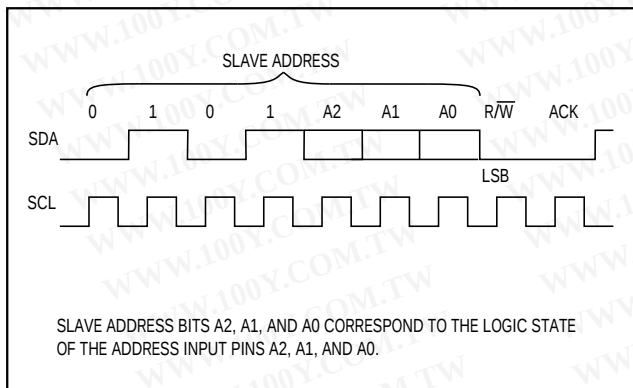
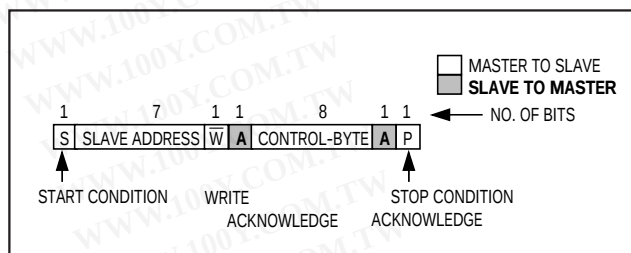
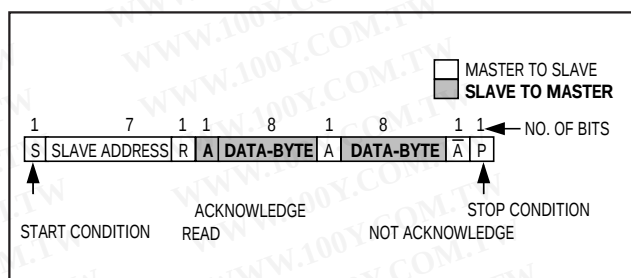
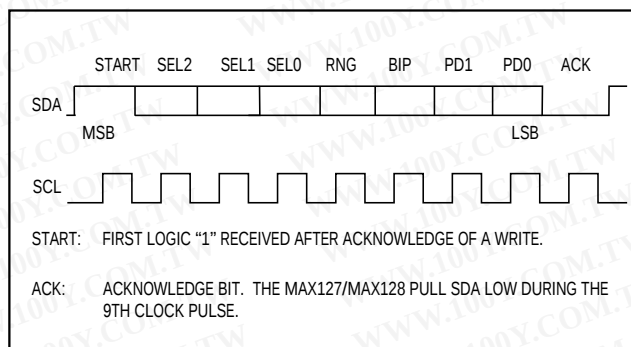

Figure 3. Address Byte
Figure 6. Write Cycle
Figure 7. Read Cycle
Figure 8. Command Byte
The MAX127/MAX128 have a 7-bit-long slave address. The first four bits (MSBs) of the slave address have been factory programmed and are always 0101. The logic state of the address input pins (A2–A0) determine the three LSBs of the device address (Figure 3). A maximum of eight MAX127/MAX128 devices can therefore be connected on the same bus at one time.
A conversion cycle begins with the master issuing a START condition followed by seven address bits (Figure 3) and a write bit ($R/\overline{W} = 0$). Once the eighth bit has been received and the address matches, the MAX127/MAX128 (the slave) issues an acknowledge by pulling SDA low for one clock cycle ($A = 0$). The master then writes the input control byte to the slave (Figure 8). After this byte of data, the slave issues another acknowledge, pulling SDA low for one clock cycle. The master ends the write cycle by issuing a STOP condition (Figure 6).
Once a conversion starts, the master does not need to wait for the conversion to end before attempting to read the data from the slave. Data access begins with the master issuing a START condition followed by a 7-bit address (Figure 3) and a read bit ($R/\overline{W} = 1$). Once the eighth bit has been received and the address matches, the slave issues an acknowledge by pulling low on SDA for one clock cycle ($A = 0$) followed by the first byte of serial data (D11–D4, MSB first). After the first byte has been issued by the slave, it releases the bus for the master to issue an acknowledge ($A = 0$). After receiving the acknowledge, the slave issues the second byte (D3–D0 and four zeros) followed by a NOT acknowledge ($\overline{A} = 1$) from the master to indicate that the last data byte has been received. Finally, the master issues a STOP condition (P), ending the read cycle (Figure 7).